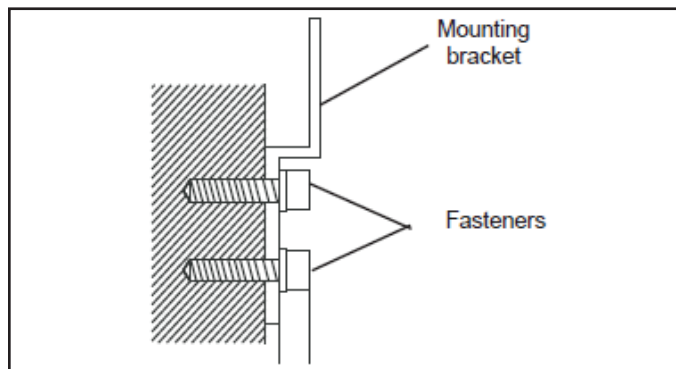

Figure 2. Mounting Brackets
3. Use suitable fasteners to secure the two mounting brackets to the wall. See Figures 2 and 3, and the dimension drawings on pages 3, 4 and 5 to ensure proper positioning of the brackets.